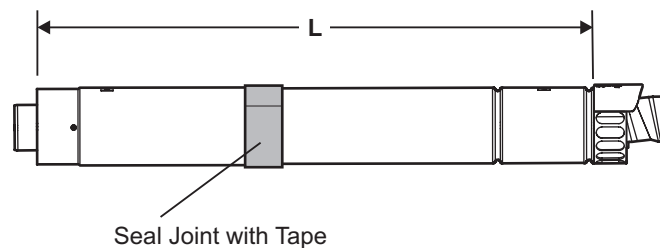

Fig. 5.9
- Determine the overall length (L) of flue required, (see Fig. 5.9) as follows:-